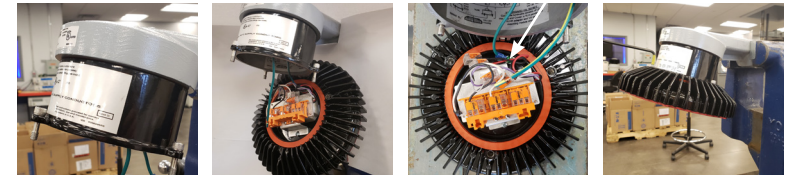

FIGURE 2
- To install stanchion and pendant mount: lubricate hub thread with Eaton's Crouse-Hinds series HTL lubricant. Thread the mount onto the conduit until tight. Tighten set screw in hub using a 5/64" (2.0mm) hex allen wrench (see Figure 2). Torque to 16 lb.-in. (1.81 N-m). Pull wires into the stanchion mount or pendant cover.
- Hang the assembly on the hinge of the cover (see Figure 2).